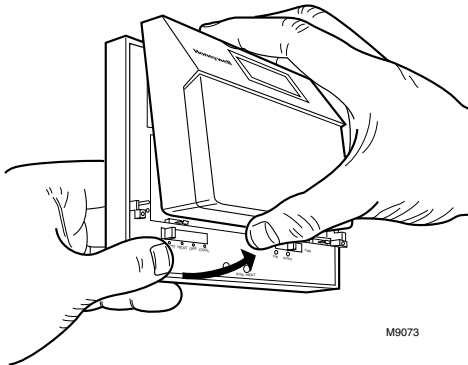

Fig. 1—Removing thermostat from base.
- Remove thermostat from subbase (Fig. 1).